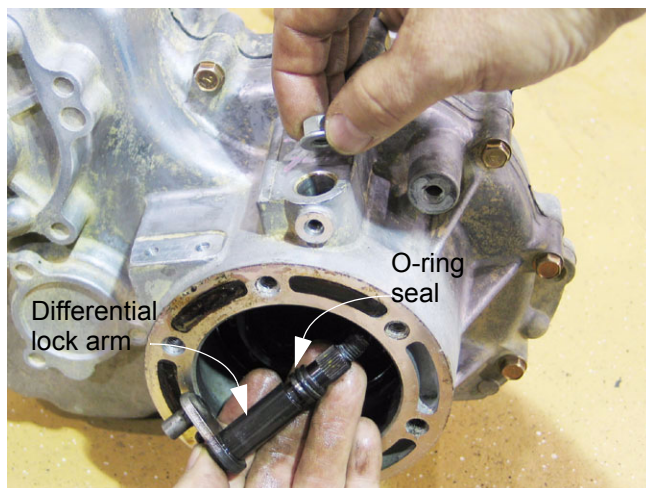

Figure 9.24
- 9.24. To remove the differential lock arm from the trans-axle housing, simply push it down into the bore. See Figure 9.24.